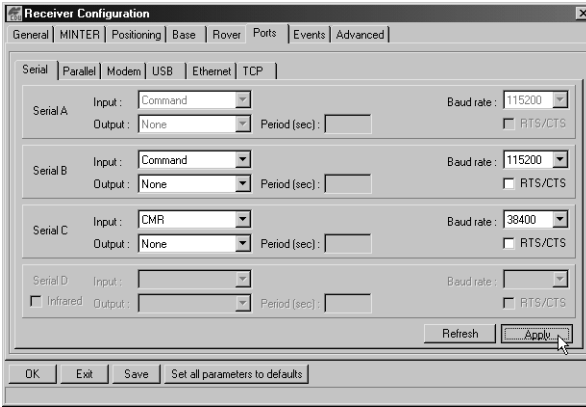

Figure 3-12. Rover Configuration – Ports
6. Click the *Ports* tab and set the following parameters for Serial C (Figure 3-12 on page 3-18):